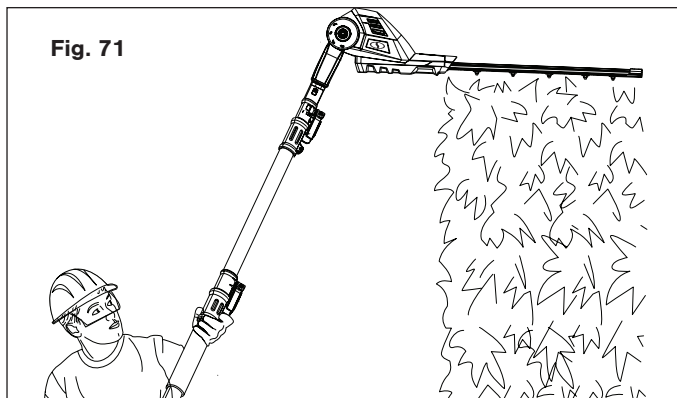

Fig. 71
1. To use the pole hedge trimmer for trimming tall, hard-to-reach hedges or shrubs, hold the trimmer at the position shown below (Fig. 71). Pivot the power head to several different positions to shape or sculpt shrubs or hedges.